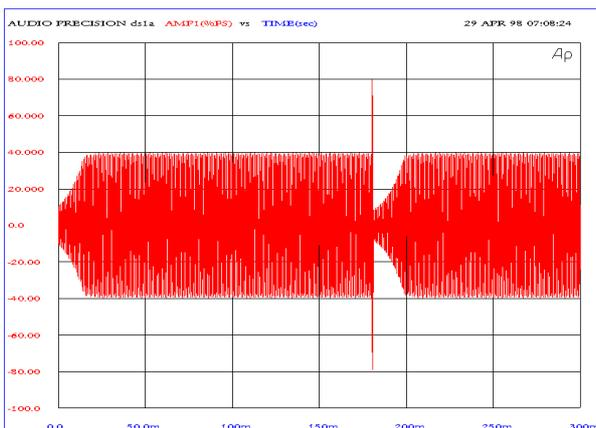

Fig. 7
**Fig. 7** A very short burst duration, like a short peak in the music. The Release Fast, Average and Release Slow parameters are set to typical values. Fig. 7 shows that after a short peak the Release Fast time is chosen, so that the short peak does not have much influence on the programme after it.
Figs. 11 to 14 For these figures the Average time is relatively short, causing the average measurement value to follow the peak measurement more quickly than with Fig. 7 to 10. The effect is that depending on the burst length, there is not that much of an influence of the Release Slow parameter as it was with figures 7 to 10.